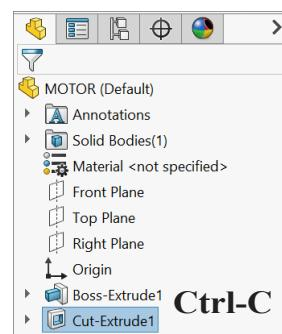

Fig. 11
Step 1. Copy **Cut-Extrude1** . To copy, click **Cut-Extrude1** in the Feature Manager and use **Ctrl-C**, Fig. 11.